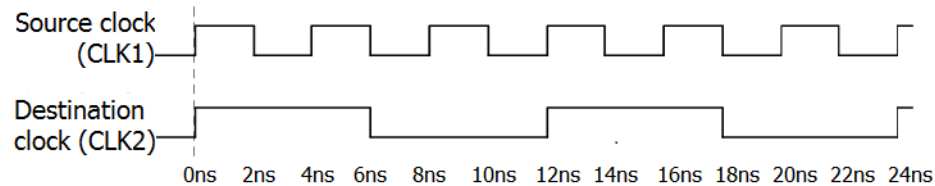

Figure 7-21: Multicycles Between FAST-to-SLOW Clocks
In the next example, the launch clock CLK1 is the fast clock. The capture clock CLK2 is the slow clock. Assume that CLK1 is three (3) times the frequency of CLK2. See Figure 7-21, Multicycles Between FAST-to-SLOW Clocks.